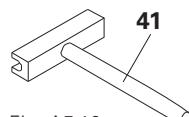

Fig. A5.10
Tie Rod Wrench (41) for one-man tie point operations from one side of the formwork. (Fig. A5.10)